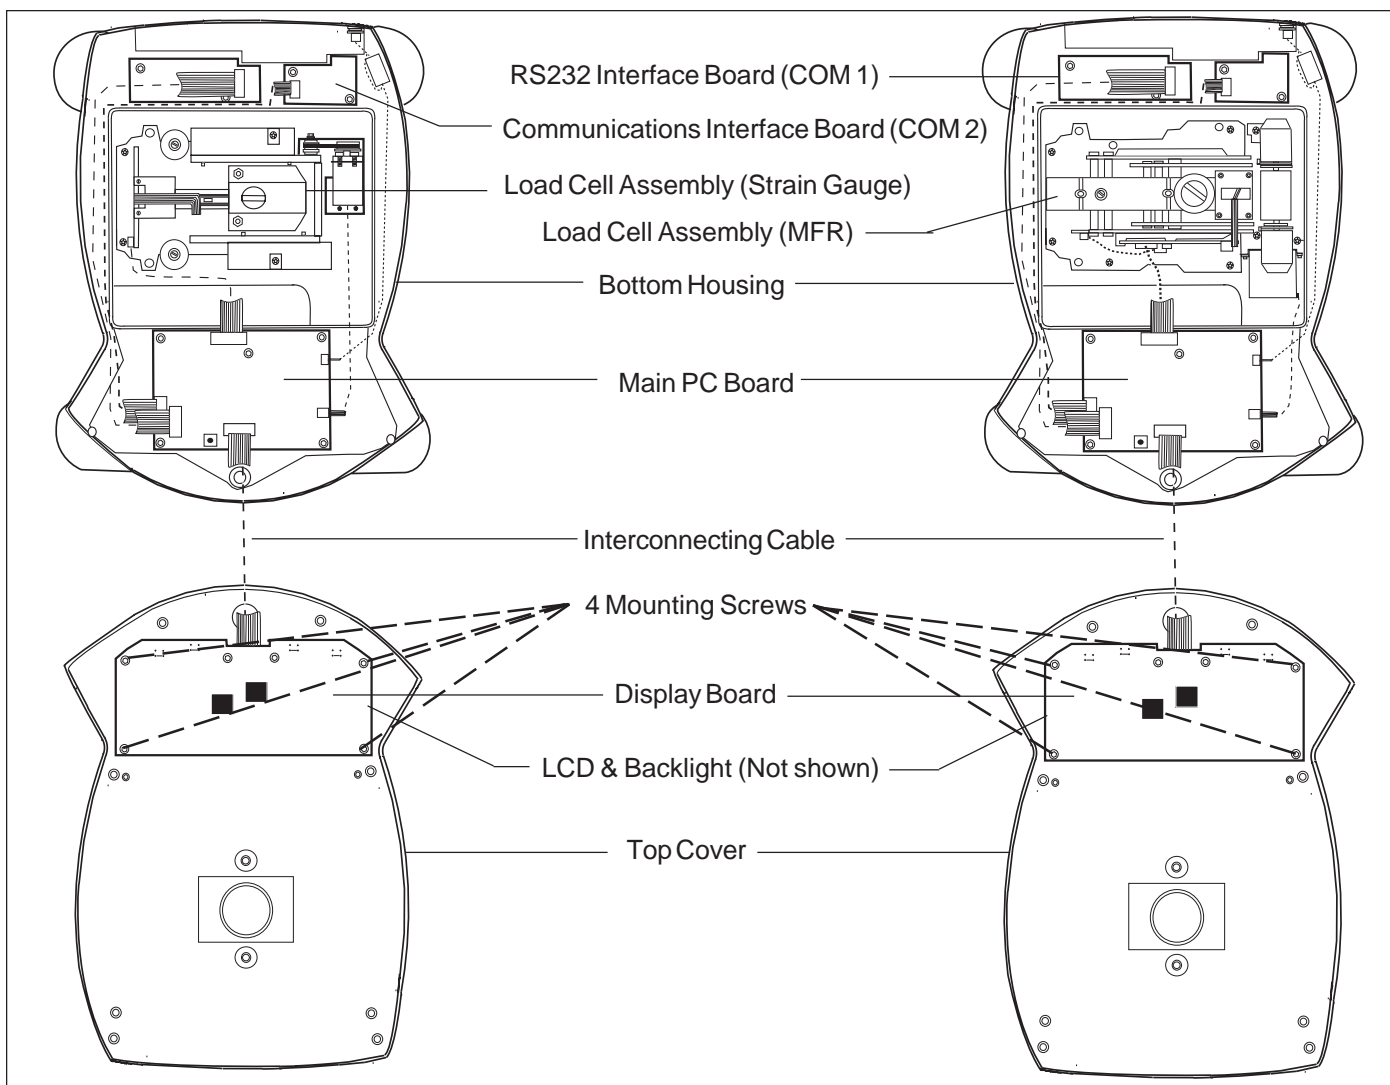

Figure 3-9. Large Frame Balance Opened.
It is suggested that if the Display Circuit Board is suspected of being faulty, it should be replaced rather than repaired. The switches can be easily replaced. They are available as a set of 4. The LCD and Backlight are difficult to replace. The AS and AV models are available with strain gauges and MFR type load cells. Figure 3-9 illustrates both types of load cells with Internal calibration motor drives.
2. The Display Circuit Board is secured with 4 screws. Remove the screws. See Figure 3-9.